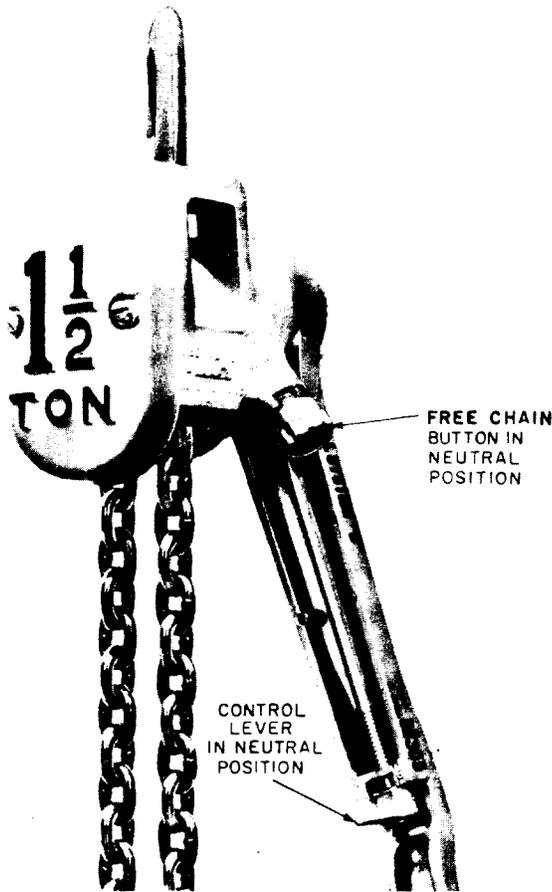

Fig. 3 — Control Lever and FREE CHAIN Button Positioned for Free Chaining
4.01 To obtain free chain, *with no load applied*, position the control lever on the handle straight out, midway between UP and DN (Fig. 3). Pull FREE CHAIN button out and rotate 30 degrees to a neutral position. Chain may now be moved freely in either direction.